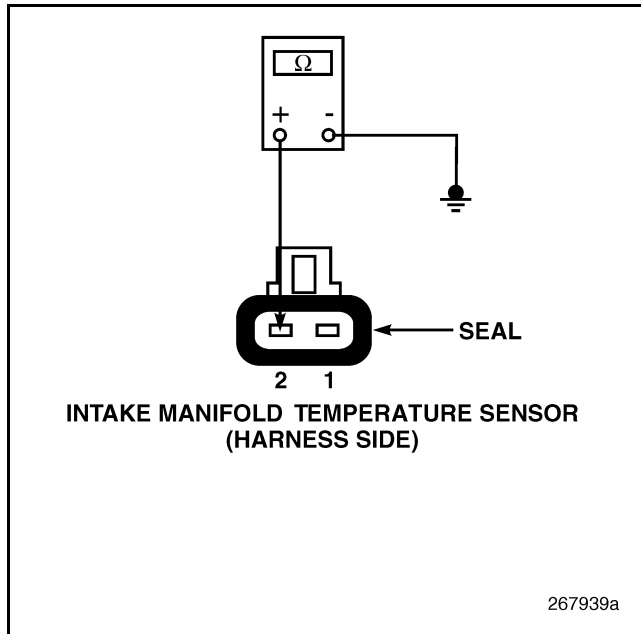

Figure 221
4. Check for continuity between pin 2 of the IAT Sensor harness connector and a good ground (see Figure 221).